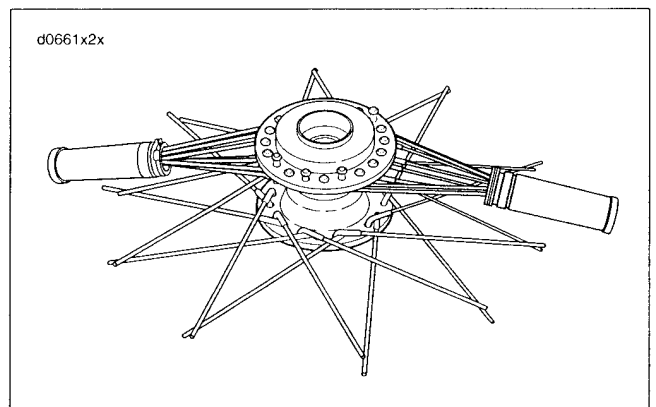

Figure 2-30. Bundling Top Spokes
6. See Figure 2-30. With all forty spokes inserted in hub, group all spokes on top flange into two bundles. Secure each group with throttle grips to keep the spokes together.